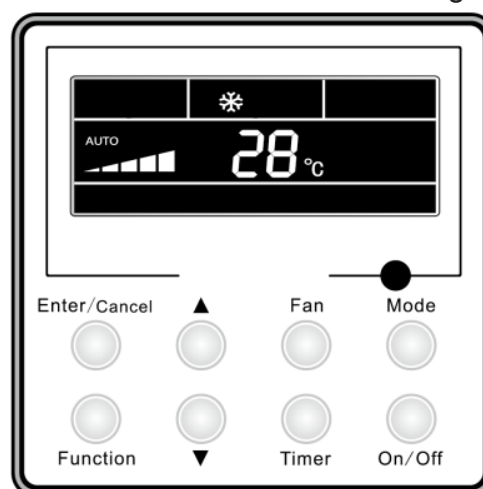

Fig.5 ON State of the Unit
- ② The state shown in Fig.5 indicates the ON state of the unit after energization.